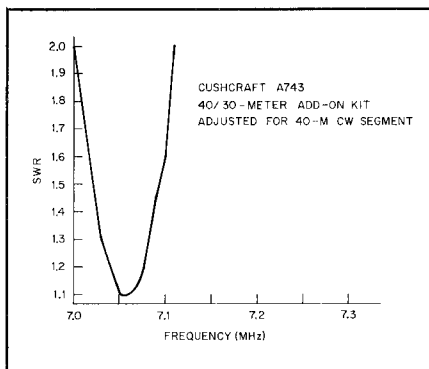

Fig. 5 — SWR curve for the Cushcraft A743 40/30-meter add-on kit for the A3 tribander.
In my opinion, the instruction sheet left something to be desired. The text does little more than refer you to the accompanying illustrations. And, while "a picture may be worth a thousand words," I felt another 100 words or so would have helped a great deal. The information is there, but close examination of the pictorials is required to avoid making a mistake. Two minor instruction sheet errors were noted. Fig. 6A has the identification of the FD and FG element sections reversed and the length of the machine screw (item 40, Fig. 5) incorrectly stated as 3/4 inch; it should be 1-3/4 inches. The manufacturer has taken steps to correct these errors.
Once the driven element has been reassembled, it is adjusted for length. Three sets of element lengths are given for the cw, center and phone segments of the band. I chose to use the cw segment lengths. I found it necessary (after initial SWR measurements were made) to trim the lengths of each side of the element by adding about an inch to the measurements given in the instruction sheet table. Fig. 5 shows the SWR curve for the antenna on 40 meters. The 1.5:1 points occur at the edges of the band segment I normally use.